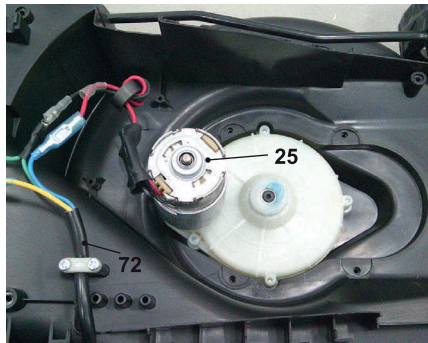

Fig. 5
3. Turn the machine back, then lift and remove the upper cover (9).
4. Separate the two connectors by a suitable nose plier (Fig. 5) as marked in red circle and the corresponding wiring system:
- **Red** lead wire of 20V brushed motor (25) - **Blue** wire of control cord (72)
- **Black** lead wire of 20V brushed motor (25) – **Green** wire of control cord (72)